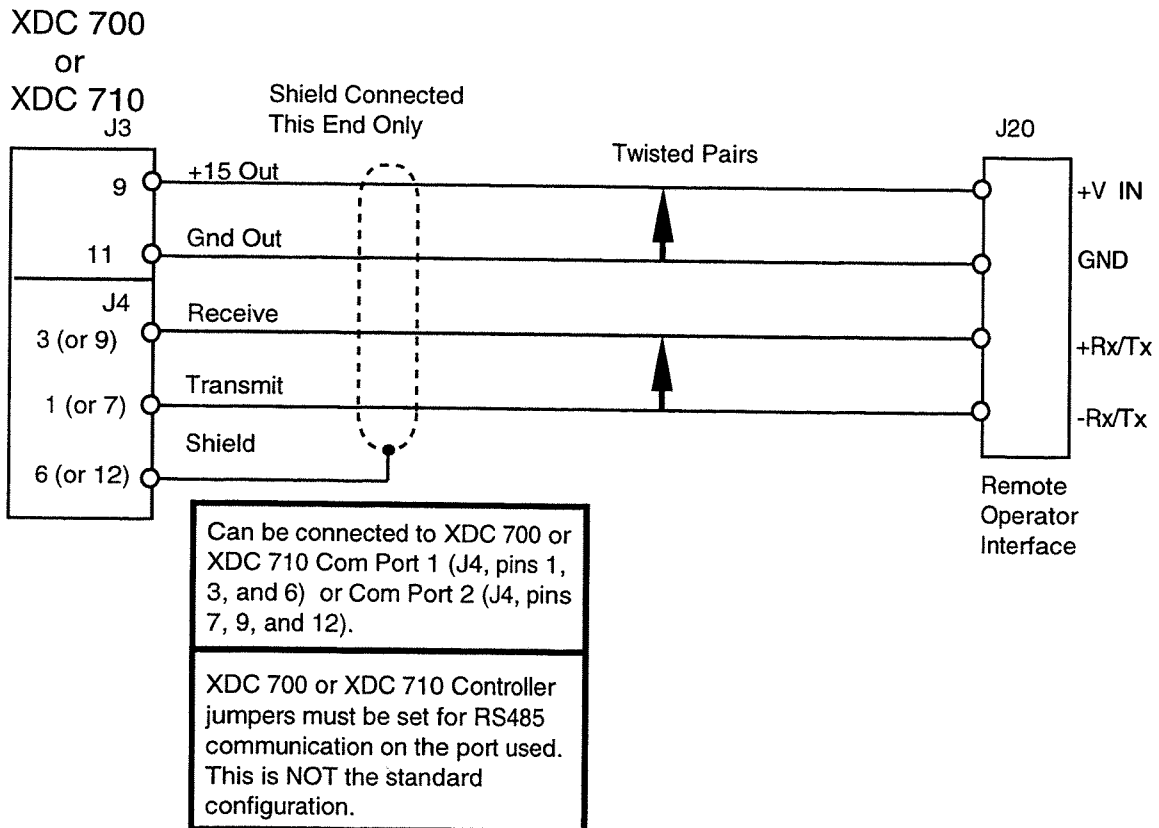

Figure 4. Cable Configuration—XDC 700 or XDC 710 to Remote Interface (Internal Power)
A connector is already plugged into the receptacle J20 on the remote processor board. Unplug this connector. Use it with the wire specified in Table 1 to make a cable for connecting the remote operator interface to the XDC 700 or XDC 710 unit. Be sure the shield wire is grounded at the XDC end only. Refer to Figure 4 (for internal XDC power) or 5 (for external power).
4. For cable configurations, refer to the earlier Figure 4 (for internal XDC power) or 5 (for external power). Be sure the shield wire is grounded at the XDC end only. Wire the cable to the J20 connector. Plug the connector into J20 on the remote processor board.